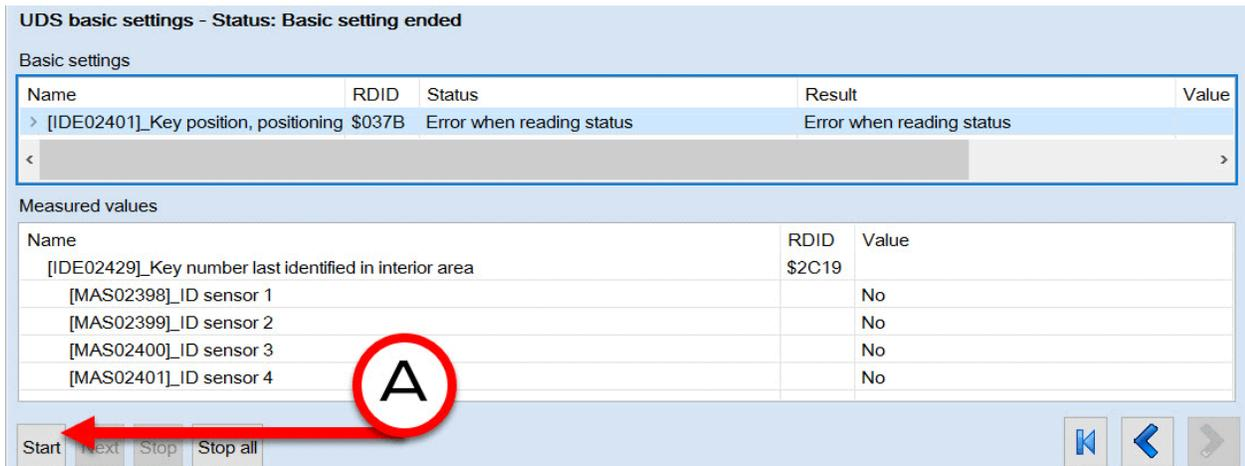

Figure 7. Validating the key.
- Click the Start button (Figure 7) to initiate a search of all Audi advanced keys, which are paired to the system and inside the vehicle.